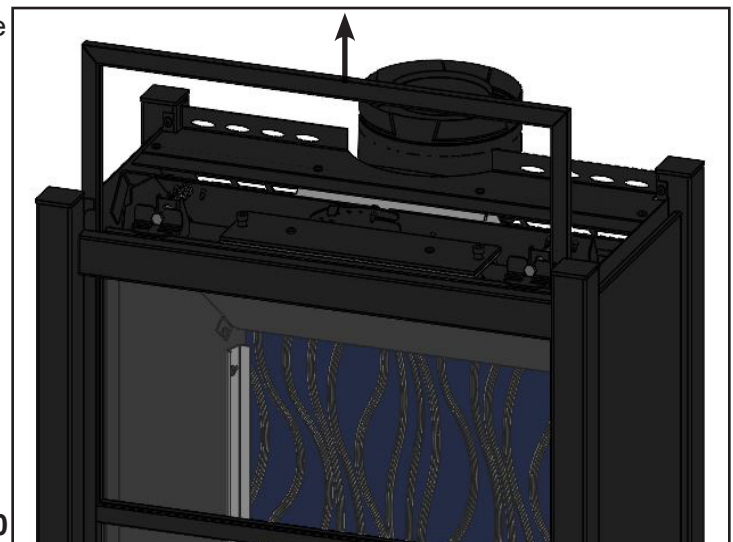

Fig. 10
4. Slide the Safety Screen up and out of the appliance and set aside. (Fig. 10)